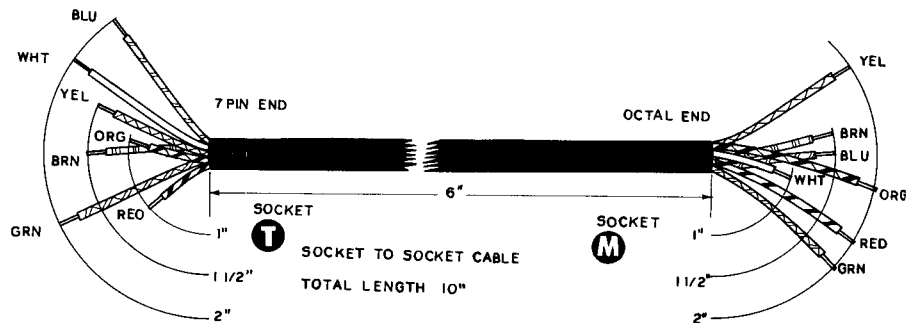

Figure 8B
- ( ) Prepare the 10" length of cable as shown in Figure 8B. Again trim all leads to the proper length, strip and tin. Note that the black wire has been completely removed from the cable.